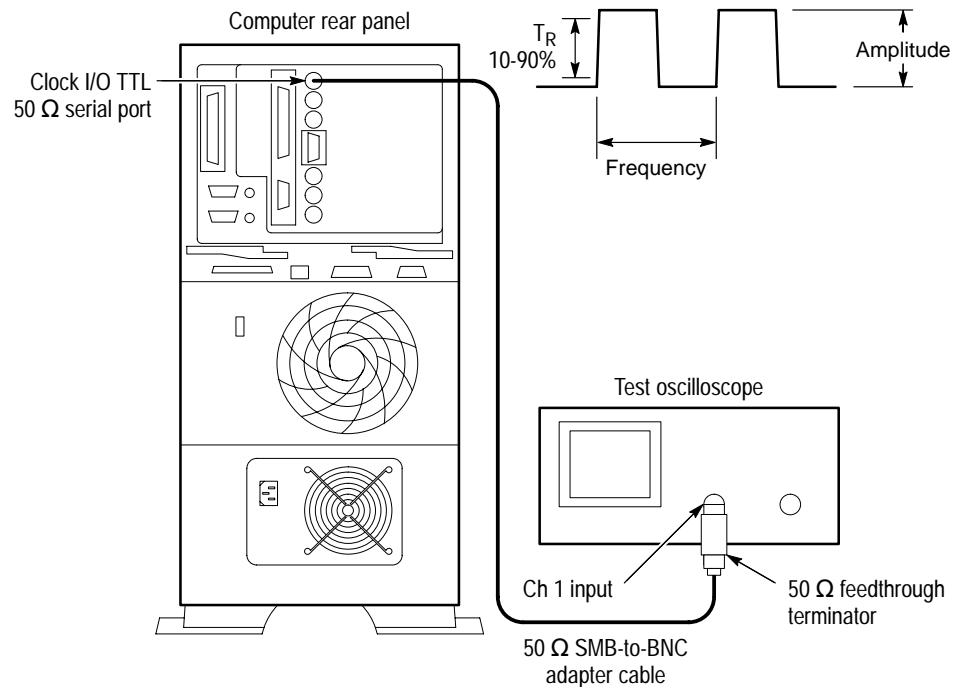

Figure 12: Setup for measuring the TTL 50 ohm clock I/O port
13. Connect a 50 Ω SMB-to-BNC adapter cable from the TTL 50 Ω Clock I/O Port, through a 50 Ω feedthrough terminator, to the oscilloscope input. See Figure 12.
16. Verify a waveform frequency of approximately 1 MHz, an amplitude of approximately 3.0 volts, and a rise time of approximately 2.0 ns. See Figure 12.
- 21.** Move the test system output cable to the TTL 50 Ω Clock I/O Port as shown in Figure 12.
- 23.** Verify a waveform amplitude of approximately 3.0 volts, frequency of 45 MHz, and rise time of approximately 2.0 ns. See Figure 12.